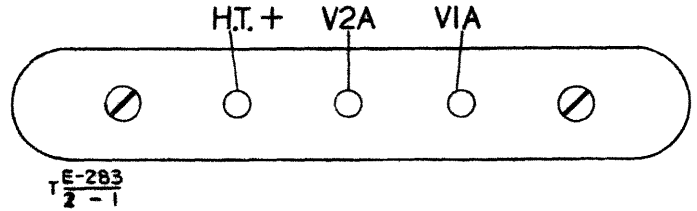

Fig. 1—R.F. chassis voltage test panel
**R.F. chassis voltage test panel (Fig. 1)**